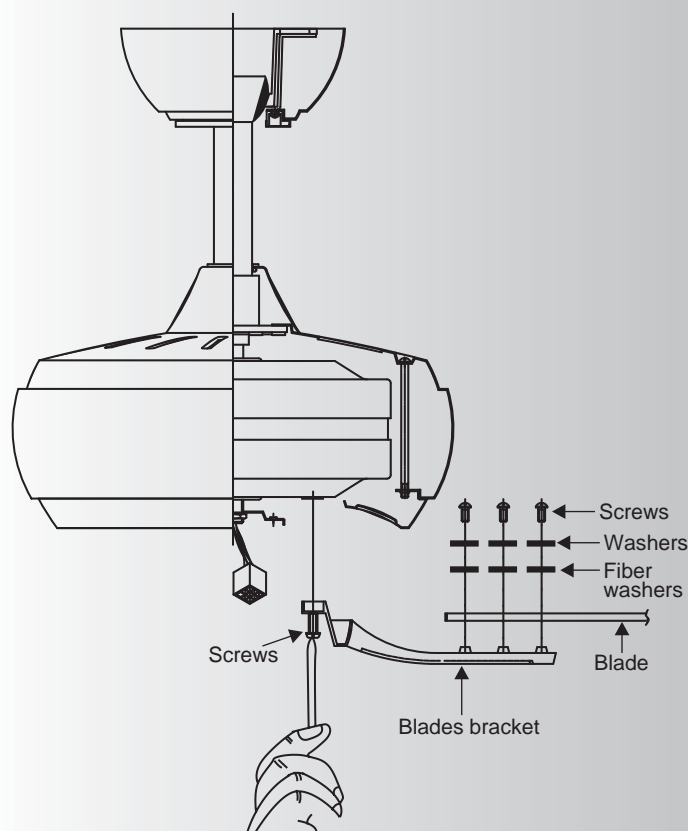

Fig. 16
Step 1 Attach the blade to the blade bracket using the screws, washers and fiber washers as shown in Figure 16. Start screw into bracket. Repeat for the two remaining screws.